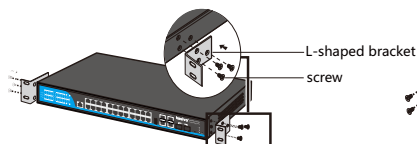

Figure 1.1.1 Schematic diagram of switch installation
2. Install the two L-shaped brackets in the accessories on both sides of the switch panel and secure them with the screws provided in the accessories, as shown in Figure 1.1.1.